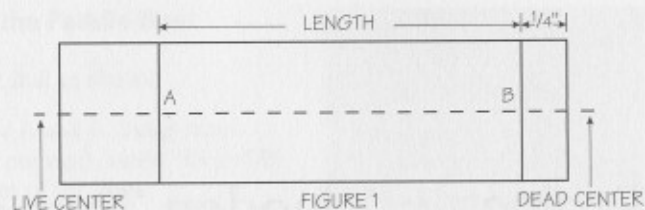

FIGURE 1
1. Turn (cut) the cylinder of wood to the correct diameter. Then lay out pencil lines on the job as shown in figure 1.